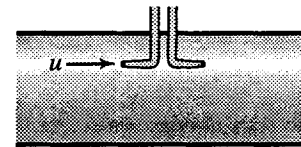

Figure P11.11
11.12 The pitometers in Fig. P11.11 are connected to a mercury manometer, which reads 120 mm. The velocity of flowing carbon tetrachloride ( $s = 1.59$ ) is known to be 2.76 m/s. What is  $C_1$  for this instrument?